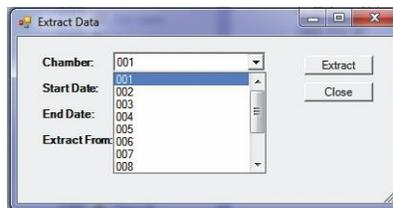

Figure 3-8 Select Chamber
1. Select the chamber (Figure 3-8).